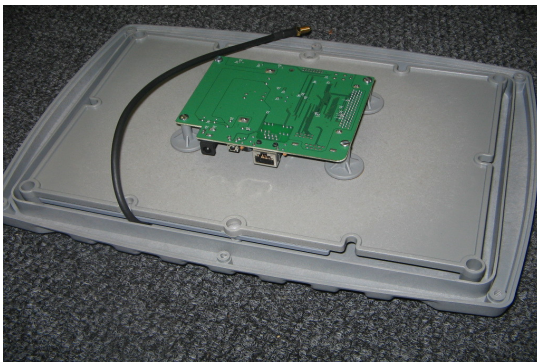

Figure 3. Attach electronics to back of lid
3. Peel off the adhesive backing paper from the base of the pillars and secure the pillars to the back of the lid (refer to figure 3). Ensure that the electronics is located such that the antenna cable can be connected easily.